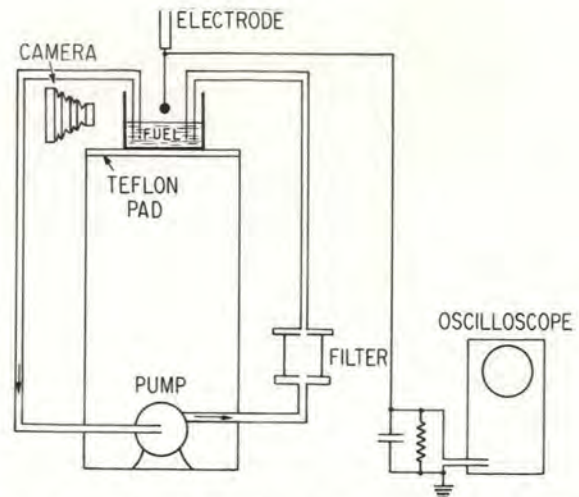

Figure 4. Apparatus Used to Study Discharges from Fuel Surfaces.
The big question is: Why? What is so distinctive about discharges from a charged fuel surface that they seldom produce explosions? To find answers to these questions, scientists at the Naval Research Laboratory have developed an apparatus (Figure 4) capable of producing sufficient charge on a fuel surface to break down spark gaps of up to 15 centimeters. Fuel (in this case JP-5) was circulated through a filter and into an insulated polyethylene tank, where discharges from the fuel surface to a grounded electrode could take place. The discharges were photographed through a window at the side of the tank and the quantity of charge transferred was measured with an appropriate circuit.
A. The letters "MRA" and the appropriate minimum reception altitude will be positioned in close proximity to the fix to which the MRA applies. If the fix is also a designated reporting point, a "flag" symbol containing an "R" will be attached to the reporting point. This is shown in Figure 4 at the GAMMA MA fix.
A. You must comply with an MRA whenever it is necessary to utilize a crossing radial to identify a fix. However, a DME fix arrow ( $\overline{15}$  or  $\overline{\quad}$ ) at a fix where an MRA is depicted, indicates that the fix may also be identified with DME. If DME is used to identify the fix, as shown in Figure 4 at GAMMA, REEDSPORT and SCOTTY reporting points, the MRA will not apply since it is not necessary